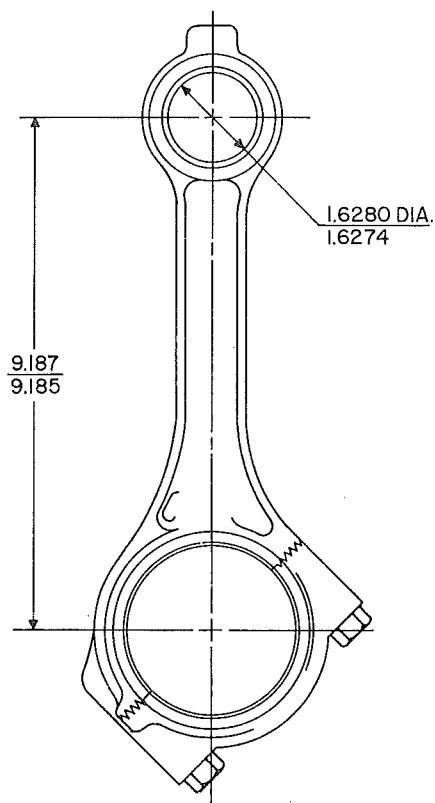

FIG. 34—CONNECTING ROD CENTER DIMENSIONS
- b. Replace the bushing if wear is more than 0.0015" [0,038 mm.]. Line ream bushings to 1.6274" to 1.6280" [4,1336 a 4,1351 cm.] inside diameter on center as shown in Fig. 34.